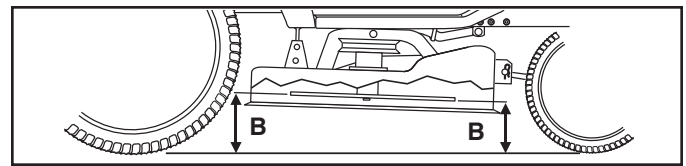

Fig. 32
**FRONT-TO-BACK ADJUSTMENT** (See Figs. 32 & 33)